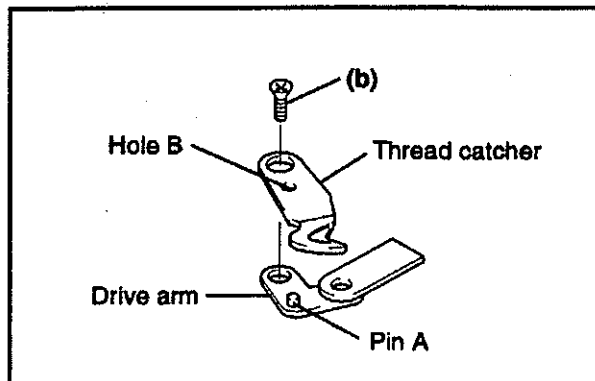

FIG.2
- (1) Put hole B of the thread catcher through pin A of the thread catcher drive arm.
- (2) Tighten retaining screw (b) (Fig.2).